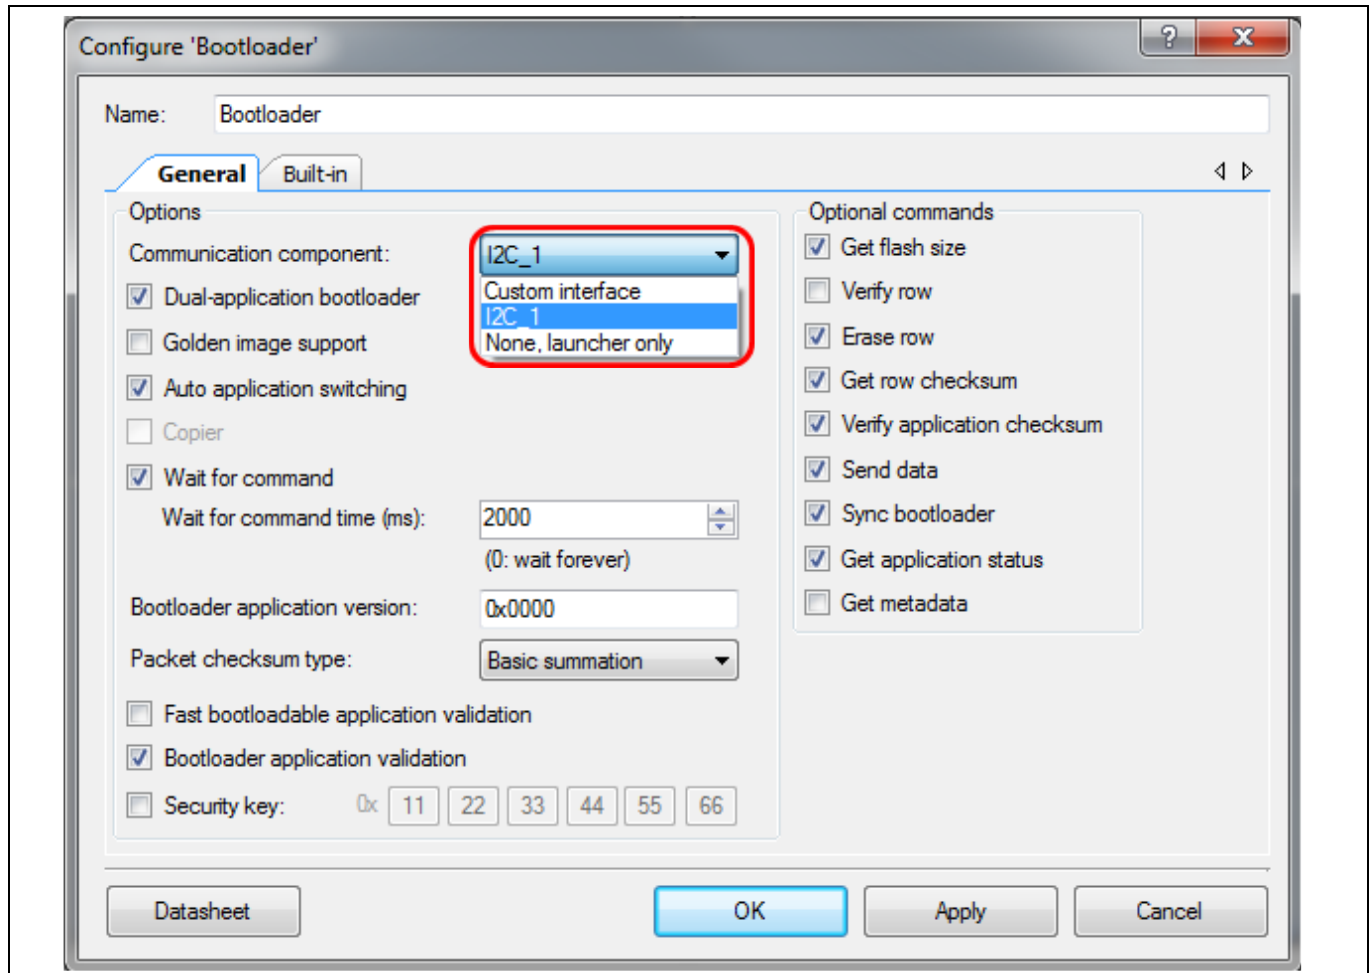

Figure 9 Bootloader component configuration
For more information, see Figure 9 on page 18 as well as the Bootloader Component datasheet.
- Bootloader Component configuration options selected (see Figure 9 on page 18)
Then, configure the Bootloader Component, as Figure 9 shows. Note the menu to select the communication Component in Figure 9 – this is the Component that is used to communicate with the host. A bootloader project must have this Component defined and selected. You can select from all of the bootloader-compatible communication Components that you have on your schematic or you can select **Custom_Interface** and define